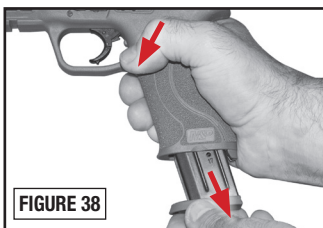

FIGURE 38
- Point the muzzle in a safe direction. Make sure your finger is off the trigger and out of the trigger guard. Depress the magazine release and remove the magazine (FIGURE 38).